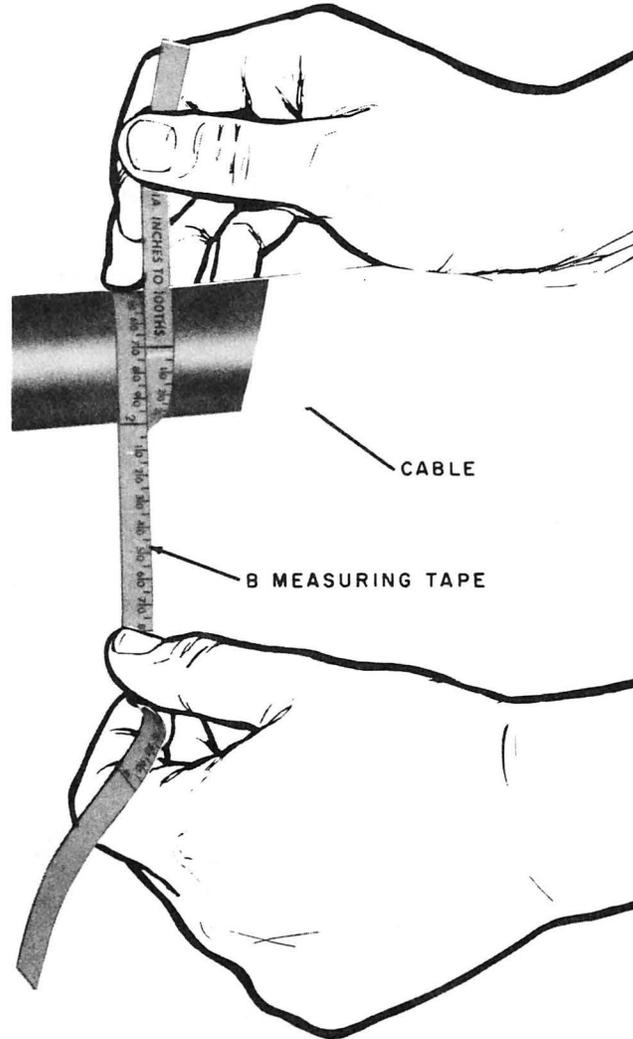
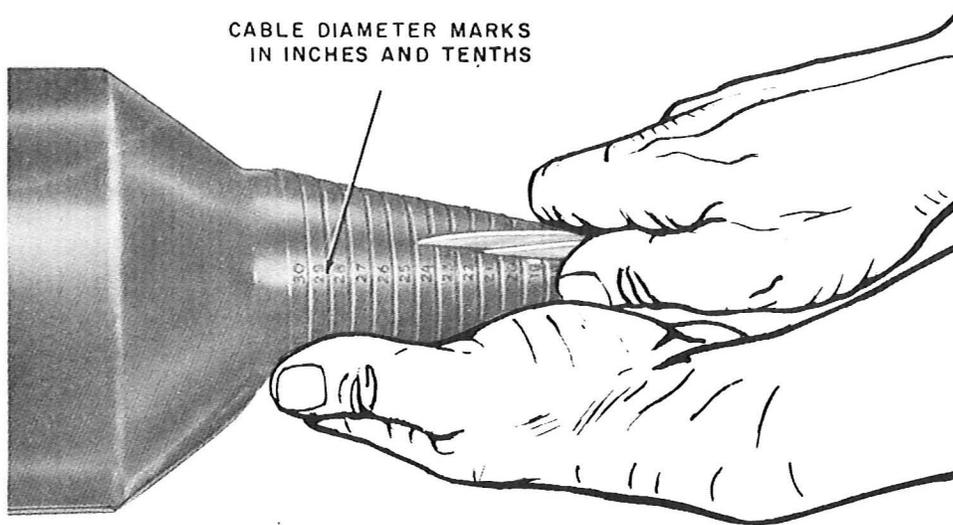

Fig. 7—Checking Cable Diameter
Fig. 8—Slitting Cover Nozzle to Cable Diameter
4.05 Measure the cable diameter with a B Measuring Tape (Fig. 7). Slit the cover nozzle at each end to the measured diameter of the cable. **Do not cut off any of the nozzle** (Fig. 8). The